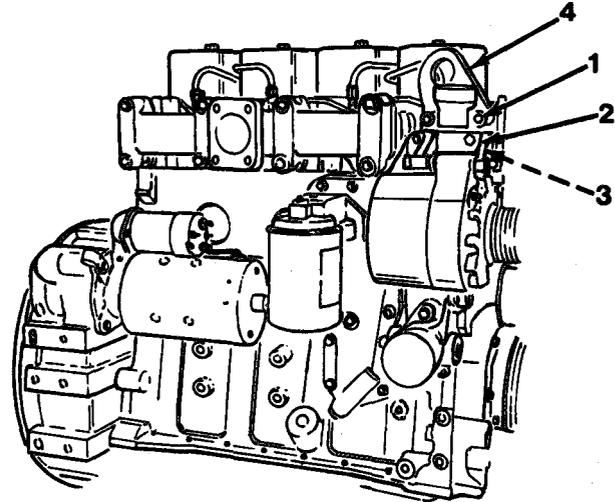

Figure 9-1
6. Using a 10 mm socket, remove three cap-screws (1), thermostat housing (2), gasket (3) and lifting bracket (4, Figure 9-1).